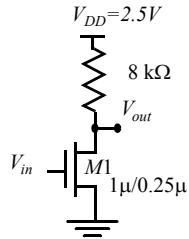

Figure 0.7 MOS circuit.
- [M, SPICE, 3.3.2] Problem 11 uses the MOS circuit of Figure 0.7.
17. [M, None, 3.3.3] Compute the gate and diffusion capacitances for transistor *M1* of Figure 0.7. Assume that drain and source areas are rectangular, and are $1 \mu\text{m}$ wide and $0.5 \mu\text{m}$ long. Use the parameters of Example 3.5 to determine the capacitance values. Assume $m_j = 0.5$ and $m_{jsw} = 0.44$. Also compute the total charge stored at node *In*, for the following initial conditions:
- For the circuit of Figure 0.7, calculate nominal, minimum, and maximum currents in the NMOS device with $V_{in} = 0 V, 2.5 V$ and $5 V$. Assume 3σ variations in V_{T0} of $25 mV$, in k' of 15% , and in lithographic etching of $0.15 \mu m$.